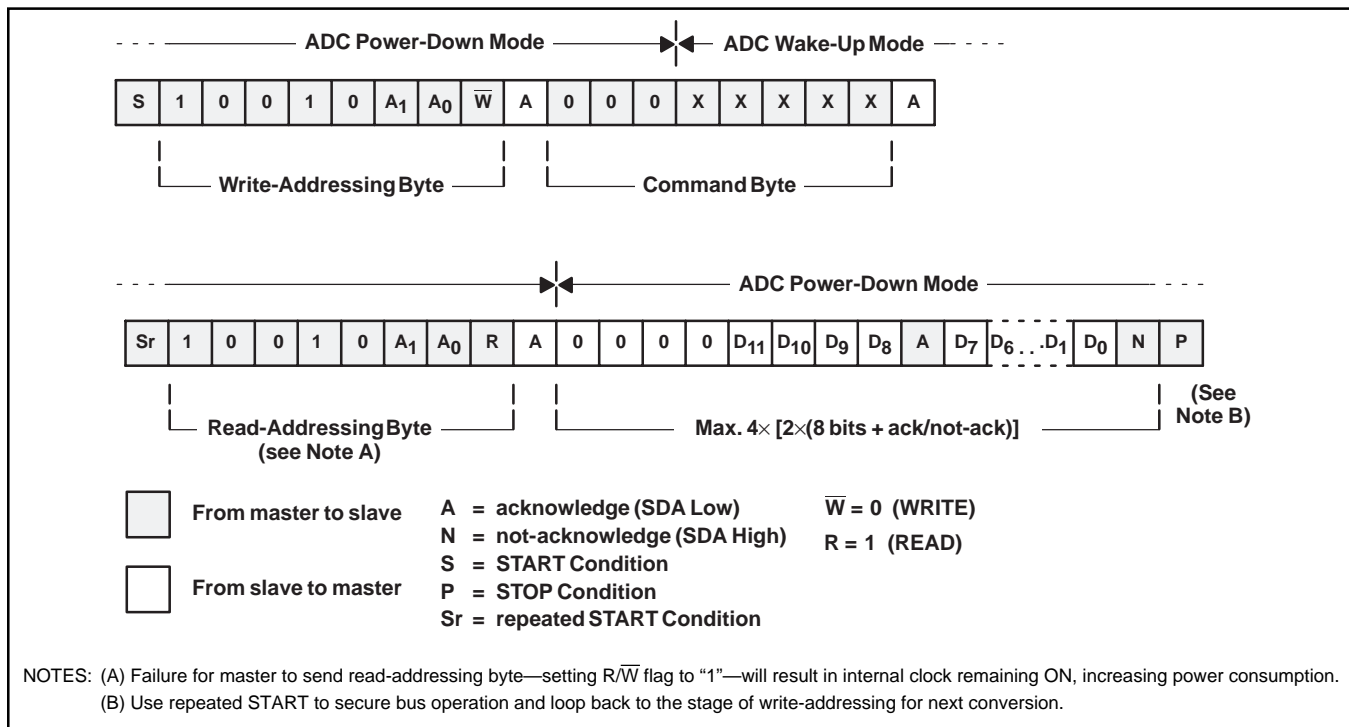

FIGURE 3. Typical Read Sequence in F/S Mode.
A typical transfer sequence for reading four words of data in F/S mode (see Figure 3). Note that the master sends a not-
- 1) In normal operation sequence (see Figures 3 and 4). The conversion is terminated after the read-addressing has been received.